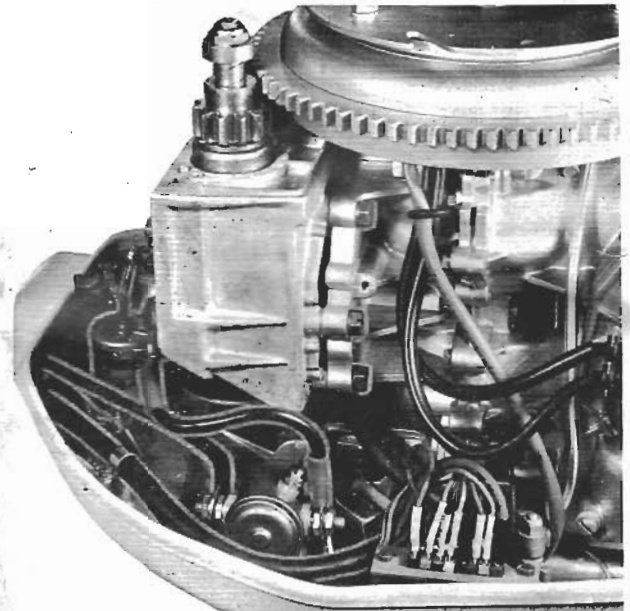

FIGURE 4
3. Install one (1) starter lead wire to the rear terminal of the starter relay. Install so that lead wire is pointed up. SEE FIG. 4.
2. Mount the starter motor assembly to the crankcase cover using three (3) 5/16-18 x 1" hex slotted head screws w/spring lockwashers as shown in Fig. 4.
3. Route the starter lead strap from the rear post of the starter relay forward to the post near the bottom of the starter motor, as shown in Fig. 4.